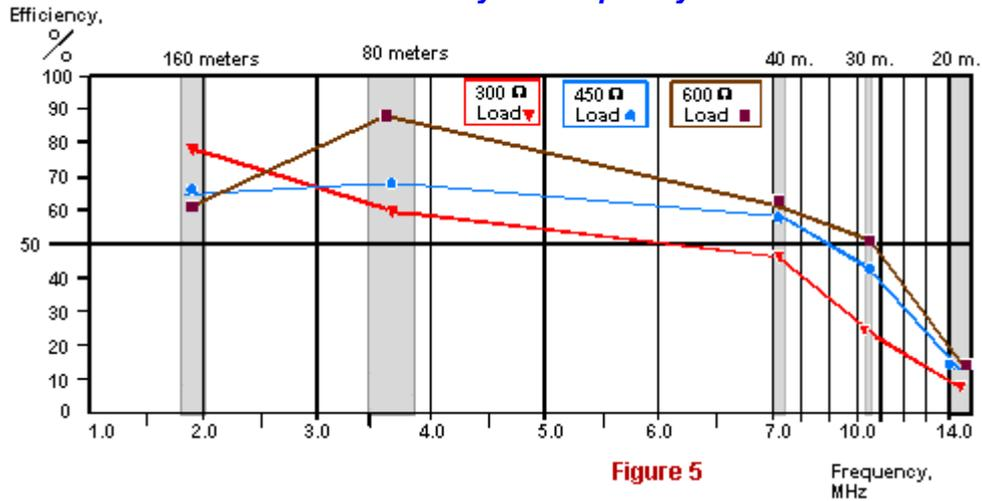

Figure 5
- The efficiency vs. frequency (**Fig. 5**).